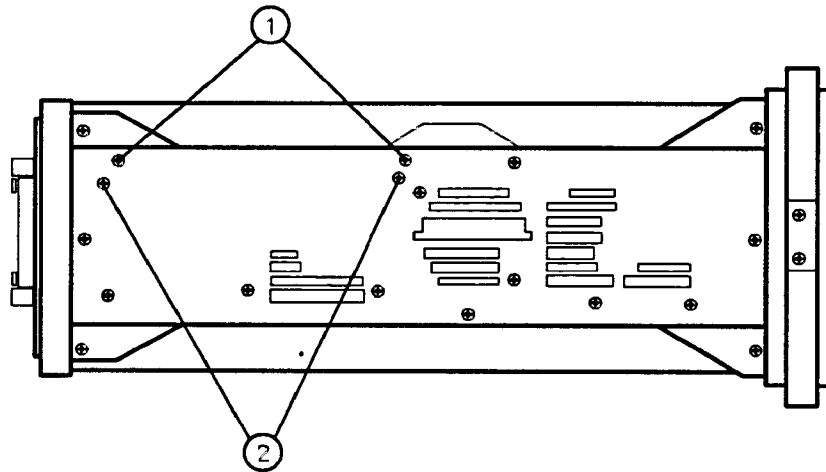

Figure 3-23. A16 and A17 Mounting Screws
3. Remove two screws (1) securing the two board-mounting posts to the left-side frame, and remove the posts. See Figure 3-23.
4. Remove two screws (2) securing the A16 and A17 assemblies to the left-side frame.
3. Secure the A16 and A17 assemblies to the left-side frame using two flathead screws. Attach the two board mounts to the left-side frame using two flathead screws. See Figure 3-23.